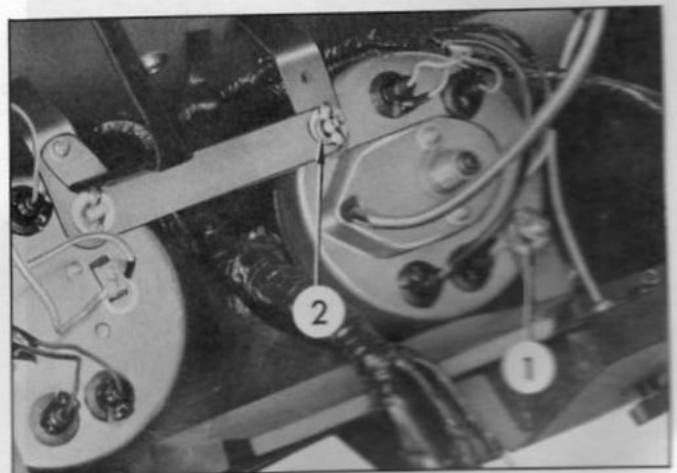

Fig. BE-12 Removing speedometer
Loosen the wing nuts on the meter brackets [① and ② in Figure BE-12] on the upper and lower sides of the reverse side of the speedometer, and withdraw the speedometer from the instrument panel.